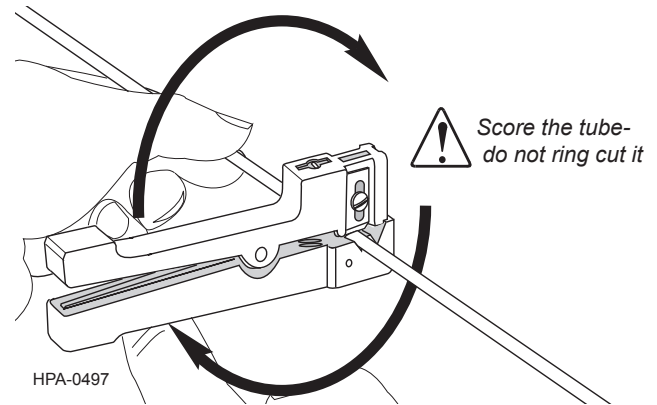

Figure 13
- c. Use your other hand to rotate the tool around the tube two to three complete turns to score it (Figure 13).